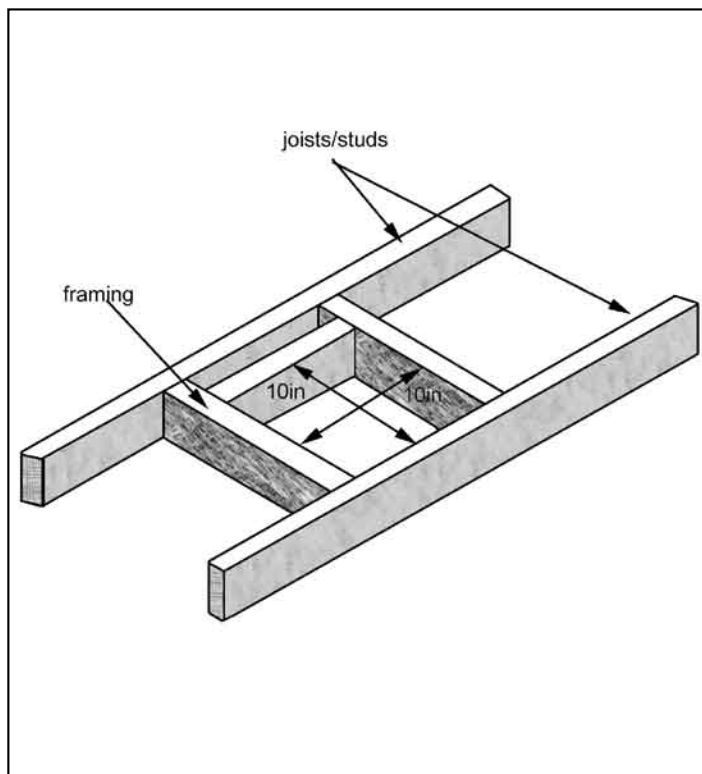

Figure 17. Vent Framing Through Wall/Ceiling
A 1in (2.5cm) clearance to combustibles must be maintained around any vertical vent pipe. Around a horizontal vent pipe, the clearance to combustibles should be 2in (5cm) above and 1 1/2in (3.75cm) on the sides and bottom. When combustible materials are directly above a 90° elbow, 4in (10cm) of clearance are necessary. A 10in (25cm) x 10in (25cm) frame will assure the proper support and spacing for the vent pipe as it passes through the wall. Installations in Canada require that a wall thimble be used for passing through walls and ceilings. See Figure 17. All sealing and vapour barriers must comply with local building codes.
**Step 3.** To install the wall thimble in a **flat ceiling**, cut a 10in (25.4cm) x 10in (25.4cm) x 10in square hole in the ceiling. The previously drilled hole should be at the center of the new hole. The square hole should be framed. See Figure 17.